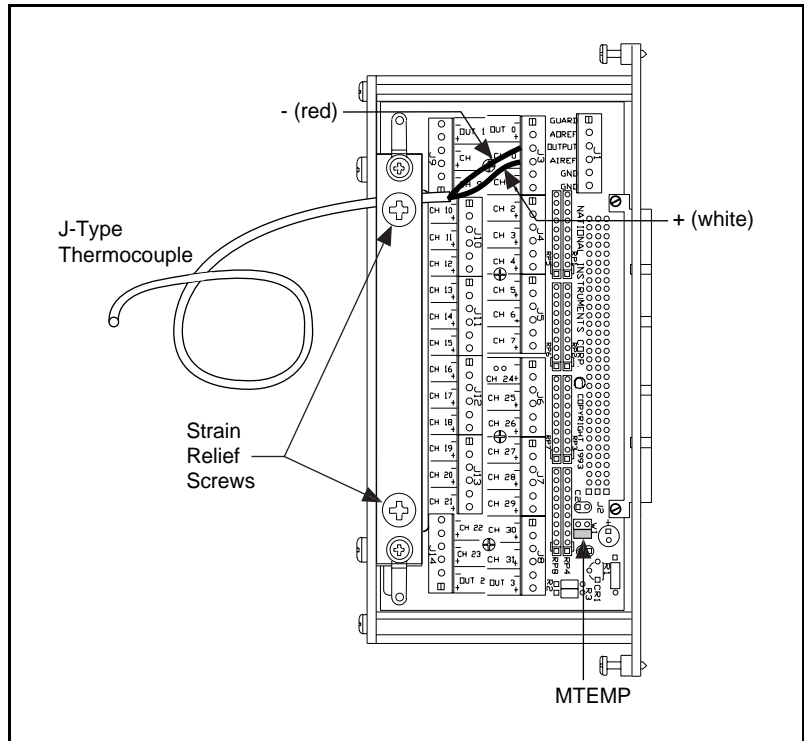

Figure 2. Thermocouple Connected to Channel 0 of the SCXI-1303 Terminal Block
4. Connect the wires to the SCXI-1303 screw terminals by inserting the wires into the terminals and tightening the screws with a flathead screwdriver. Refer to Figure 2 to install the thermocouple on channel 0.
Figure 2 shows the SCXI-1303 terminal block parts locator diagram.